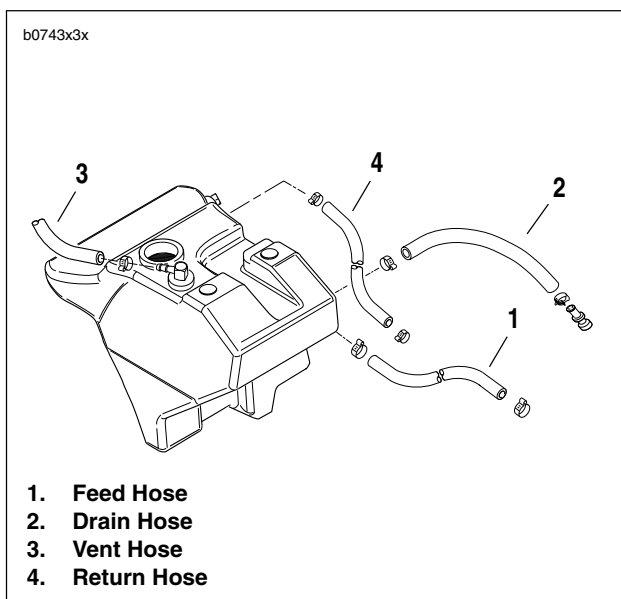

Figure 3-45. Oil Tank Hoses
See Figure 3-45. The oil tank has four hoses. The drain hose (2) attaches to a fitting on the left side. From the top of the tank, the vent hose (3) runs along the right side to below the battery tray. The return hose (4) runs along the left side and joins the bottom feed hose (1) under the battery tray.